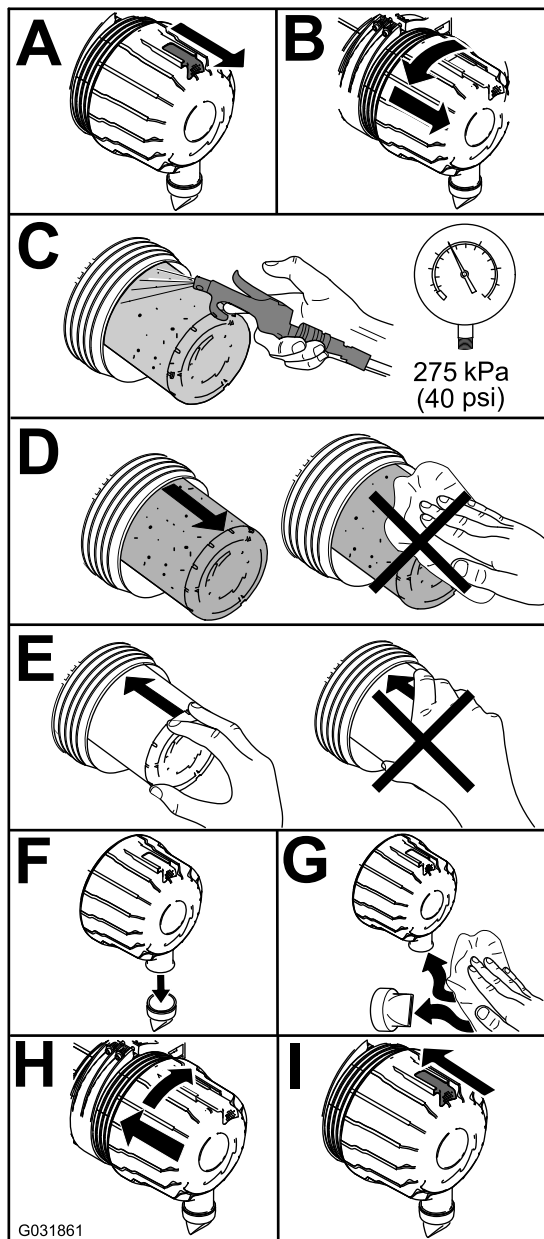

Figure 74
1. Replace the air cleaner (Figure 74).